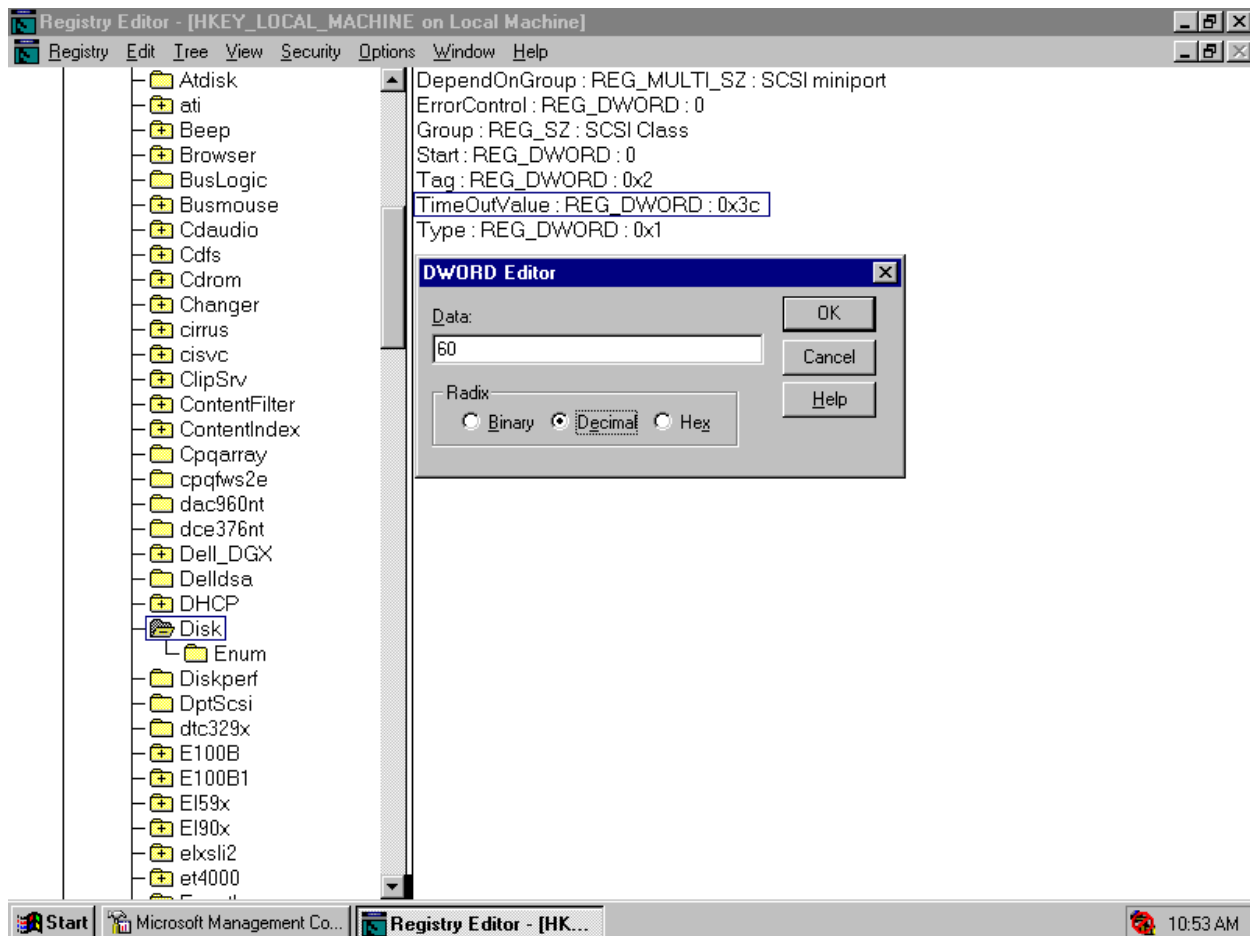

Figure 2.3 Verifying/Setting the Disk I/O TOV Using the Registry Editor
Verify the disk I/O TOV using the Registry Editor as follows (see Figure 2.3):
2. Display the disk parameters as follows: go to **HKEY_LOCAL_MACHINE** → **SYSTEM** → **CurrentControlSet** → **Services** → **Disk** (see Figure 2.3).